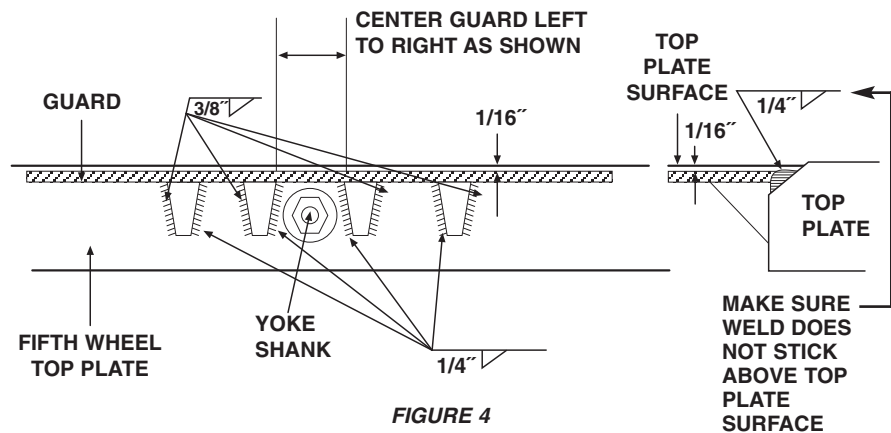

FIGURE 4
11. Weld the vertical gussets to the fifth wheel flange, first with $\frac{3}{8}$ " fillet welds at the outward facing joints. After this is complete, make a $\frac{1}{4}$ " groove weld between the fifth wheel and guard on the top surface of the wheel. **(See Figure 4)**